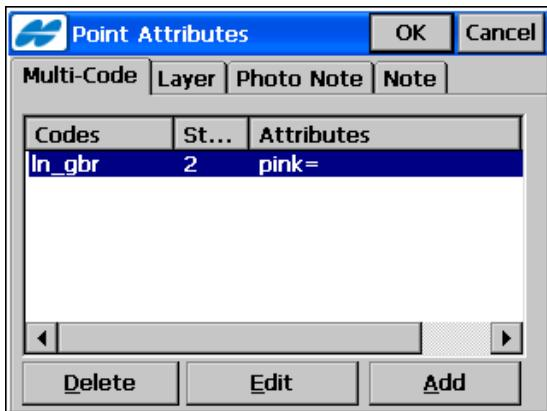

Figure 6-9. Multiple Code-Attributes
- **Multiple Codes** – opens the **Point Attributes** screen with multiple codes to edit (Figure 6-9 on page 6-9).
On the ***Point Attributes***, screen (Figure 6-9), tap the Multiple Codes tab. You can edit multiple codes and strings. Multiple codes and strings associated with a point make the point a part of numerous lines.